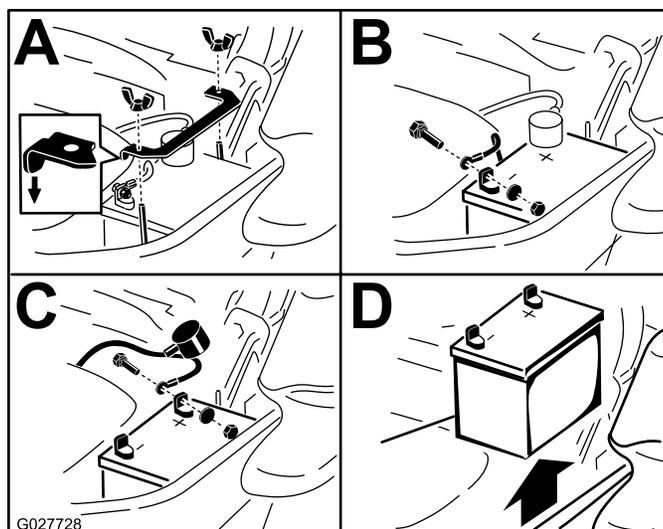

Figure 62
3. First disconnect the negative battery cable (black) from the negative (-)(black) battery terminal (Figure 62).
4. Slide the red terminal boot off the positive (red) battery terminal and remove the positive (+)(red) battery cable (Figure 62).
5. Remove the wing nut securing the battery clamp (Figure 62).
6. Remove the clamp (Figure 62).
1. Position battery in the tray with the terminal posts opposite from the hydraulic tank (Figure 62).
4. Secure the cables with 2 bolts, 2 washers, and 2 locknuts (Figure 62).
6. Install the clamp and secure it with the wing nut (Figure 62).